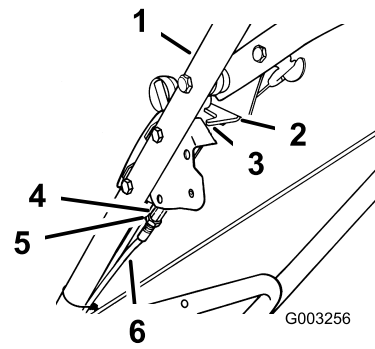

Figure 29
- A. Loosen the jam nut on the blade brake cable (Figure 29).